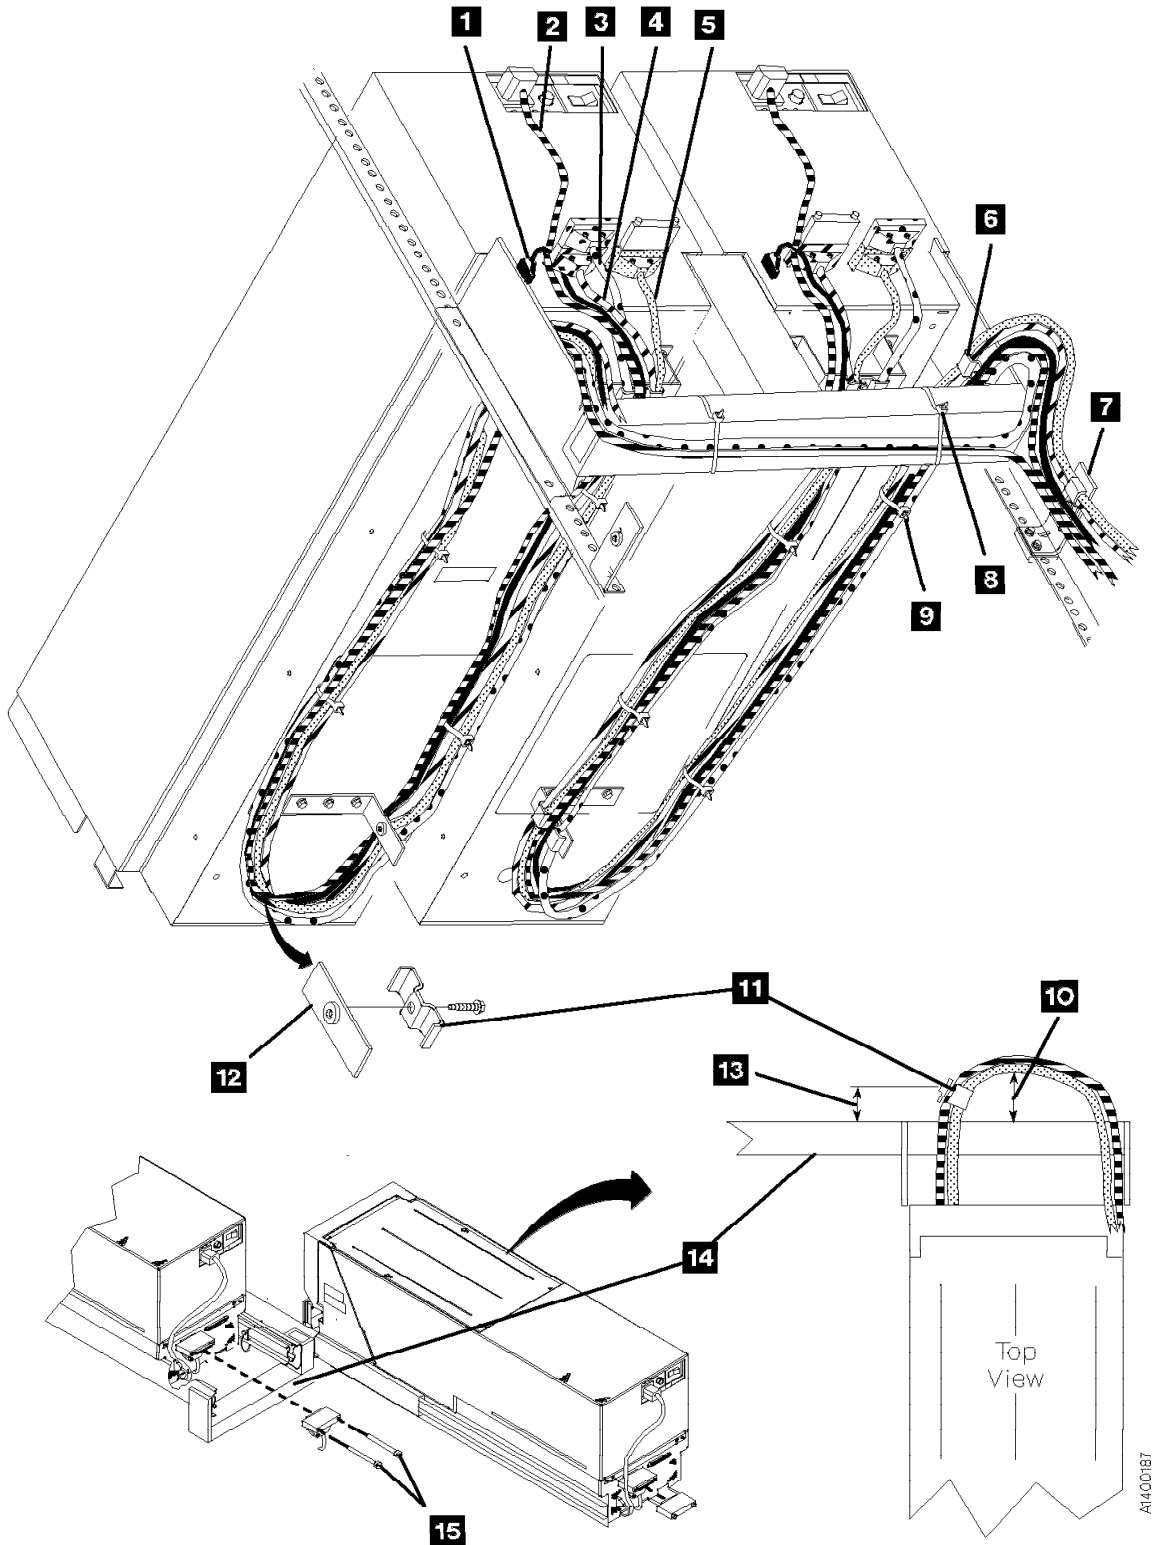

Figure 220. Cable Routing
2. See Figure 220 on page INST-58. Connect the SCSI cables and terminators to the ports on the 3590s. Use screws P/N 05H8983 **15**. One screw is in the ship group and one screw is attached to each cable.